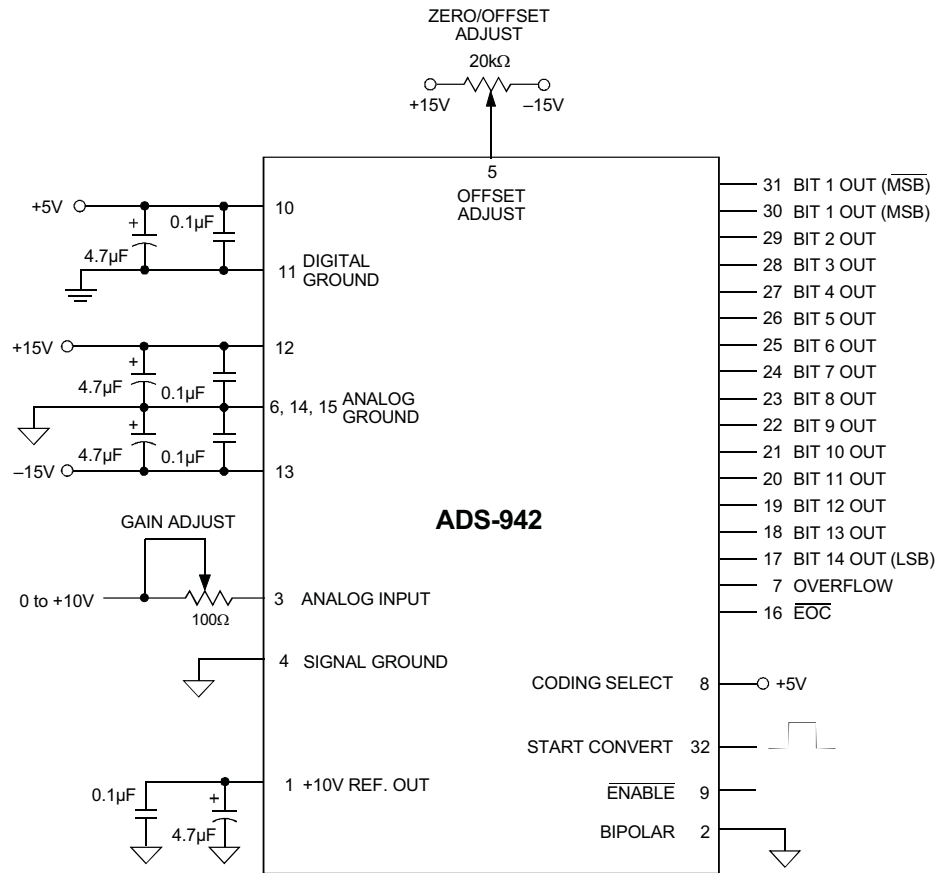

Figure 3. Typical ADS-942 Connection Diagram
1. Connect the converter per Figure 3 and Table 1 for the appropriate input voltage range. Apply a pulse of 35 nanoseconds minimum to START CONVERT (pin 32) at a rate of 200kHz. This rate is chosen to reduce flicker if LED's are used on the outputs for calibration purposes.